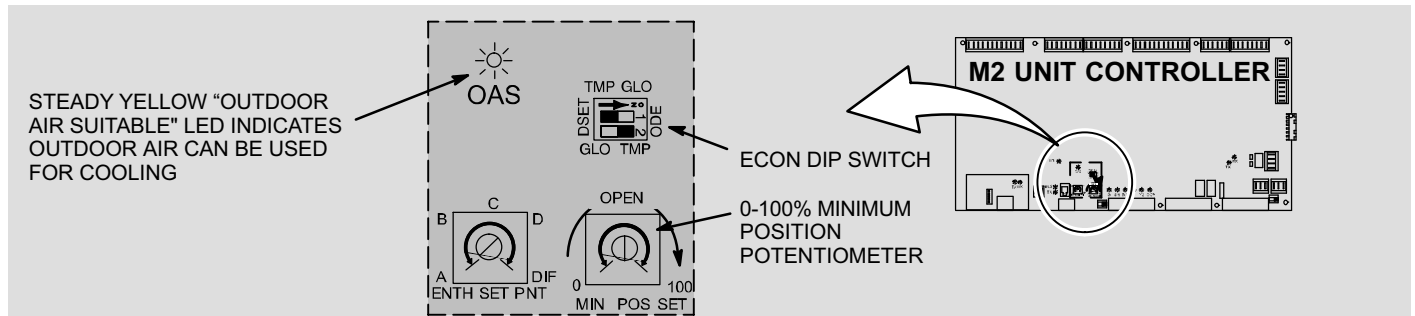

Figure 8. Economizer controls
A yellow LED which is labeled OAS provides economizer status. A steady yellow LED indicates that outdoor air is suitable for free cooling. A flashing yellow OAS light indicates the IAQ sensor requires outdoor air. (A flashing yellow LED can also mean that the economizer dampers are open to bring in fresh air while a compressor is on.) If the economizer is already operating, a flashing yellow OAS light indicates the IAQ sensor requires more outdoor air than is suitable for free cooling (see figure 8).
- C After a few seconds delay, the yellow OAS LED (see figure 8) should turn on.